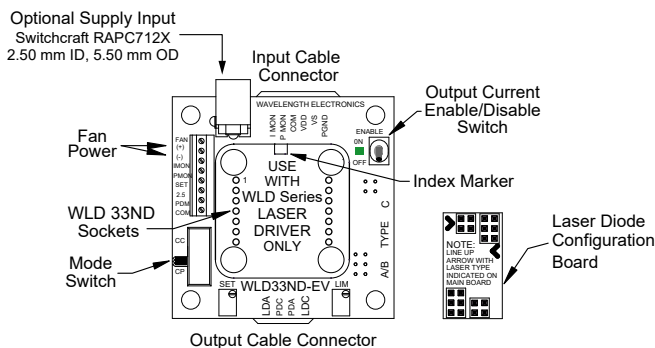

Figure 13. WLD33ND-xxEV Top View
Figure 13 gives a top view of the WLD33ND-xxEV Evaluation Board.
Prior to applying power to the board, use the Mode Switch to choose either CC or CP (**Figure 13**). Ensure that the switch is completely rockered to the chosen end.
B) Configure the evaluation board for Constant Current (CC) operation using the Mode Switch.
C) Turn the SET trimpot at least twelve turns counter-clockwise (OFF). Adjust the LIM trimpot at least twelve turns clockwise (ON).
D) Apply power to the Evaluation Board and enable the output current by switching the enable switch to the “ON” position. See **Figure 13** to locate the switch.
E) Adjust the SET trimpot clockwise until the voltmeter displays V_{LIMIT} calculated in **Equation (14)**. Next, turn the LIM trimpot counter-clockwise until the displayed voltage just begins to decrease. Finally, turn the SET trimpot fully counter-clockwise to zero the output current.